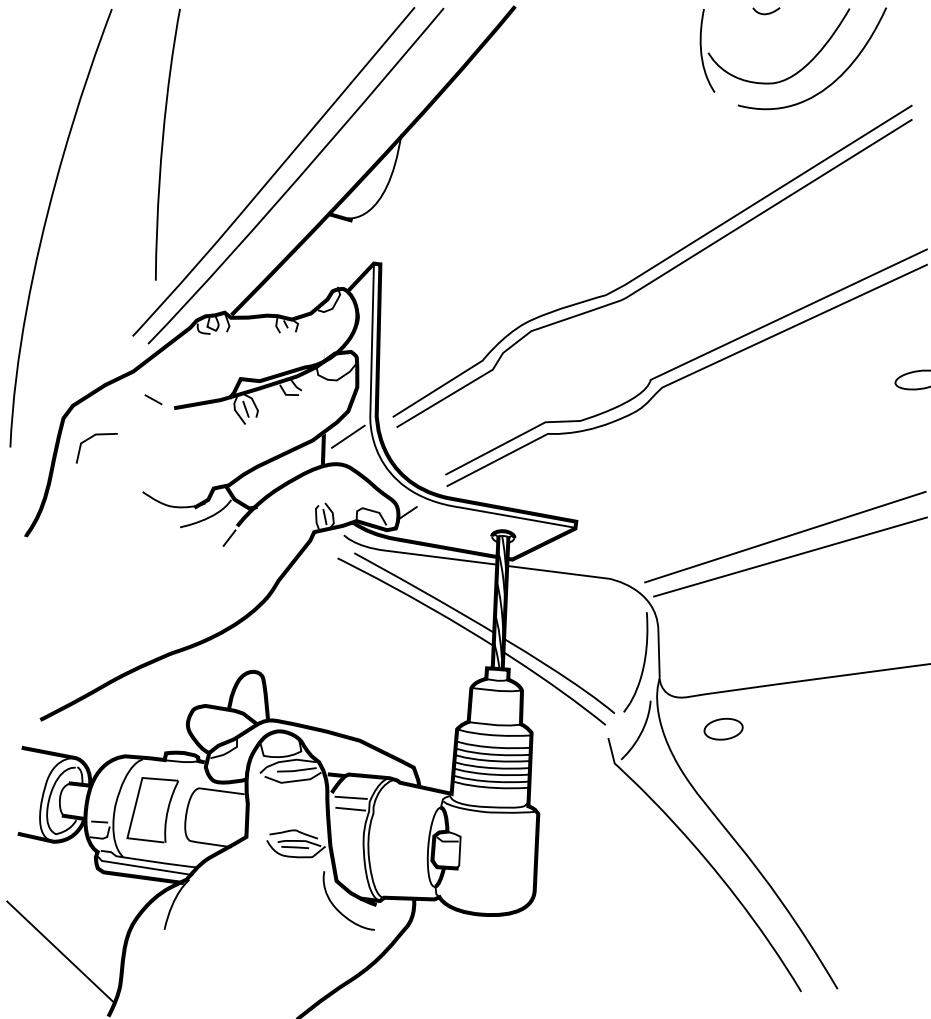

Figure 2: Using Brace as a Drill Guide
4. Using the brace as a guide, drill the holes with a 3/16" drill bit (See Figure 2).